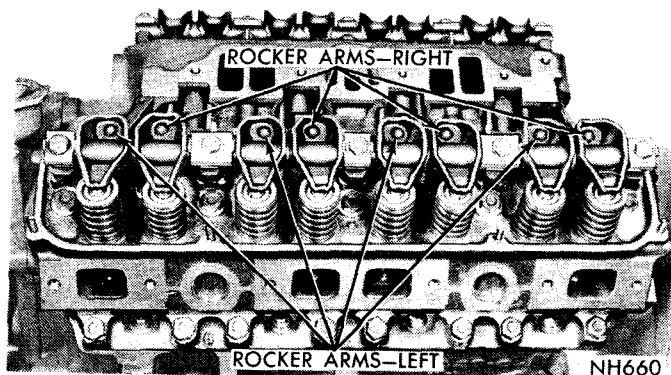

Fig. 3—Rocker Arm Assemblies Installed
- (1) Remove cylinder head cover and gasket.
- (2) Remove rocker shaft bolts and retainers and remove rocker arms and shaft assembly.
- (3) If rocker arm assemblies have been disassembled for cleaning, inspection, or replacement, refer to (Fig. 3) for proper reassembly.